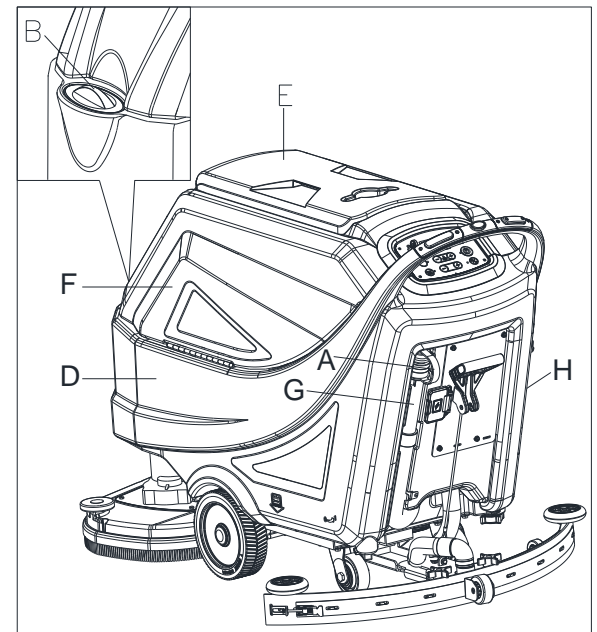

Figure 12
1. Open the water inlet cover (B, Figure 12).